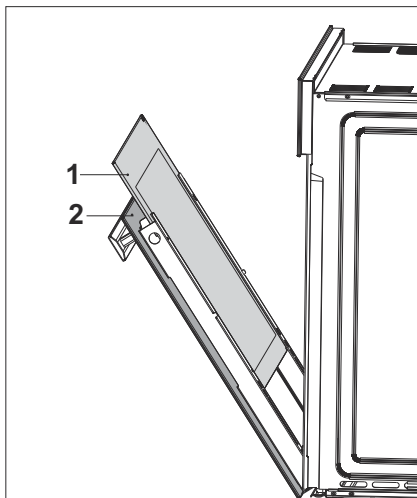

Fig. 34
10. ➤ ■ Remove the internal glass of the appliance to clean it (Fig. 34).